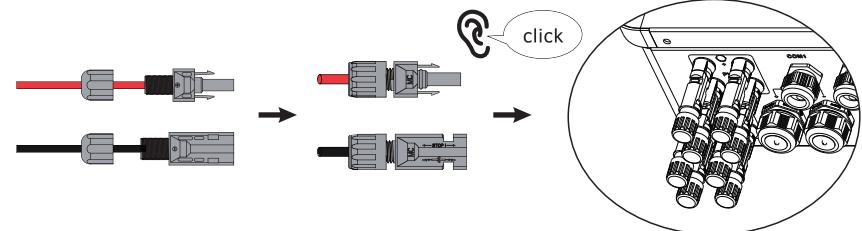

Figure 4.1-4 The PV plug is connected to the inverter
Step4. Screw the cap on and plug it onto inverter side. There will be a click sound if connectors are inserted correctly into PV plugs, as shown in Figure 4.1-4.